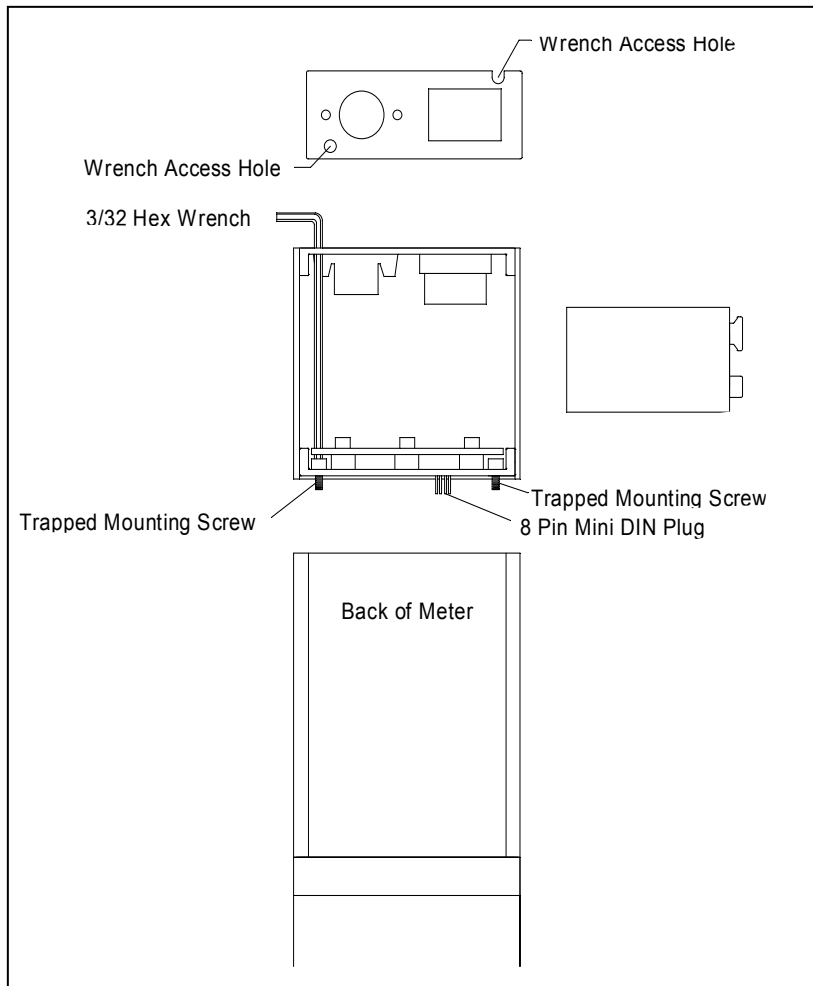

Figure 10. Battery Pack Installation/Removal
3. Slip the included hex wrench into either of the two holes on the top of the battery pack as shown in Figure 10 and start the screw into the corresponding threaded hole in the top of the meter.